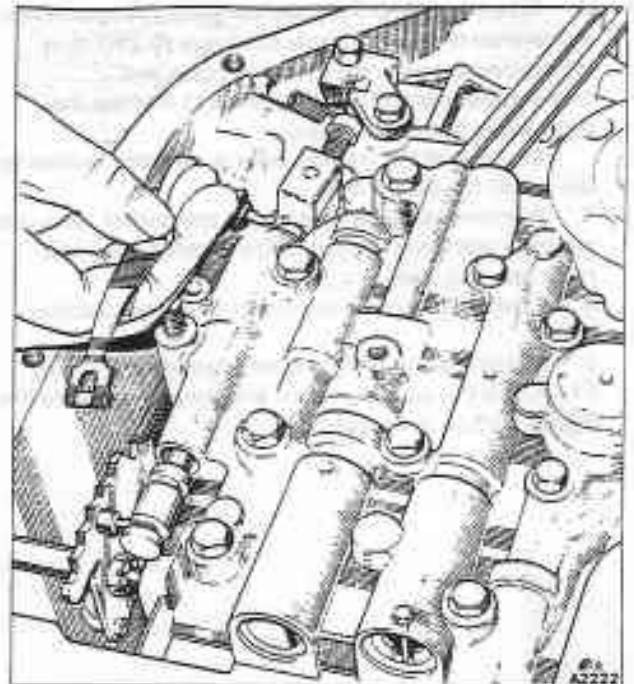

Fig. T13-5 Fitting the detent spring and roller
9. Fit the detent spring and roller assembly (see fig. T13-5). Fit the securing screw and torque tighten to the figures quoted in Section T23.